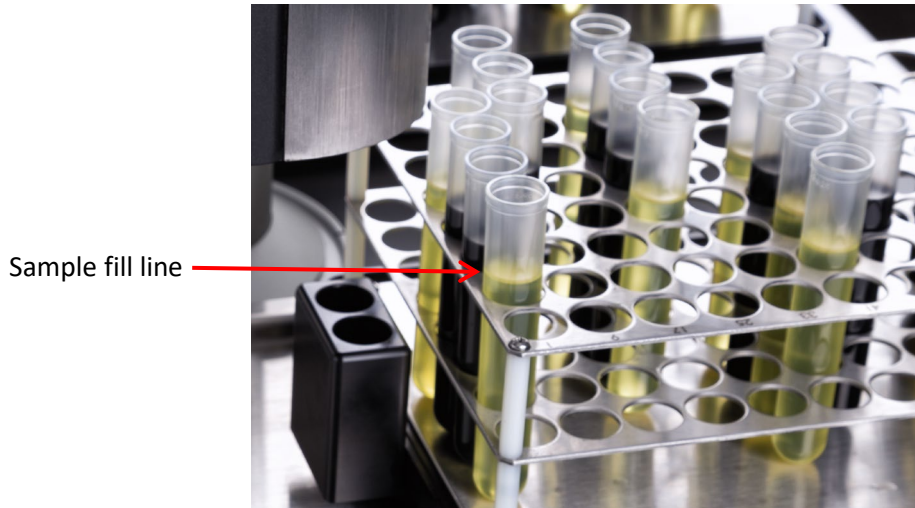

Figure 33: Sample Fill Line
1. Fill sample vial to above the tray line (where the top of the tray meets the vial) but below the top of the vial, see Figure 33. Then place tray on instrument for testing.